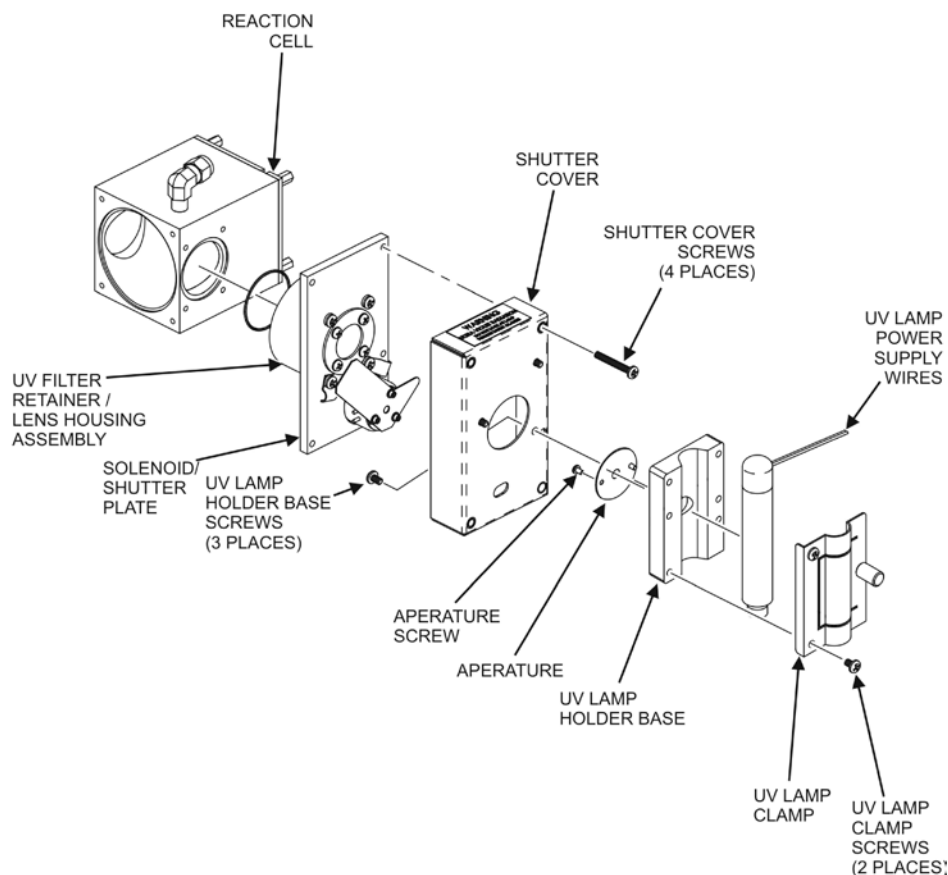

Figure 8-4. Shutter Assembly
3. Loosen, but do not remove the two UV lamp bracket screws and the large brass thumbscrew located on the shutter housing (refer to Figure 8-4) so that the lamp can be moved.
**DO NOT grasp the UV lamp by its cap when changing its position (refer to Figure 8-4). Always grasp the main body of the lamp.**